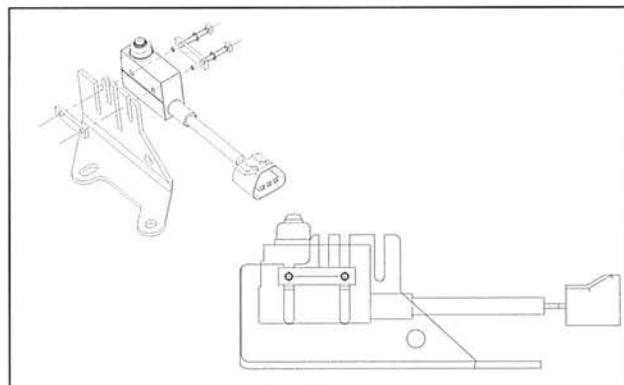

Fig. 18
- c. Attach the fuel pump switch to its mounting bracket as shown in Figure 18. Do not tighten the screws at this time. There are two pairs of slots in the fuel pump switch mounting bracket. Use the longer pair of slots, as indicated in Figure 18.